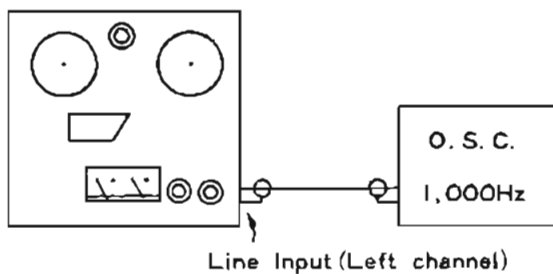

Fig. 7
- a) As shown in Fig. 7, connect an Audio Oscillator to the Left Line Input Jack (56) of the tape recorder, and supply a 1,000 Hz signal.
- c) Turn the Line Record Level Control Knob (19) so that the left channel VU meter needle indicates "0" VU (white mark). The COMPUT-O-MATIC should be set to the "OFF" position.